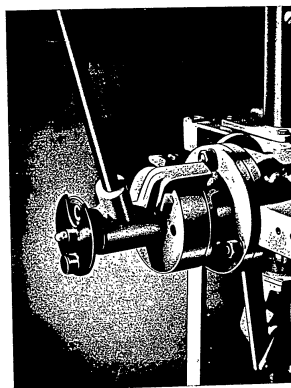

Fig. 19 - Hand Control.
1) Hand control is used on circuit breakers operating on voltages under 20 kV (Fig. 19). Opening may be effected by hand by moving the operating lever in the opposite direction to closure, or remotely by trip coils. Indoor switchgear may be also operated through direct acting over load and no-volt relays.